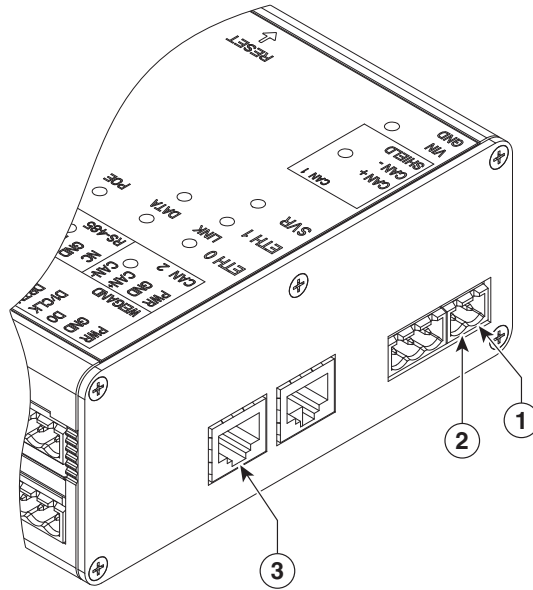

Figure 36: Gateway Power Connections
4. Connect the Cisco Gateway to a power source, using the connections shown in Figure 36.
- If using a DC power source, insert a two-pin connector plug into the DC power port (Figure 36), and connect the Voltage In (VIN) and ground (GND) wires.